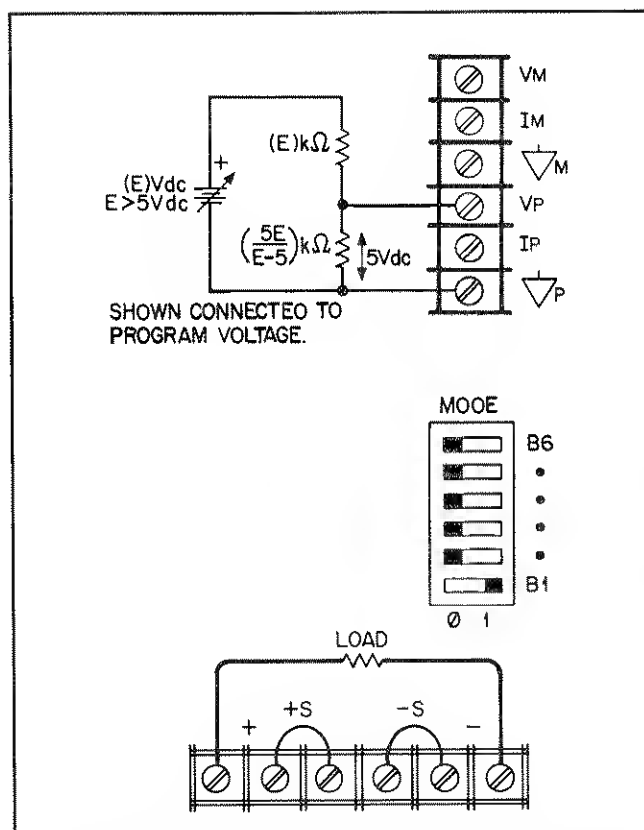

Figure 3-11. Optional Voltage Divider for Program Source
*If external resistors are used to limit the remote-programming voltage to 5 Vdc, the resulting high programming-source resistance can degrade the power supply's programming speed, offset and drift performance. Limit the equivalent source resistance to 10 k ohm maximum. Figure 3-11 shows a convenient way to calculate suitable voltage-divider resistance values for a 5 k ohm source resistance.*